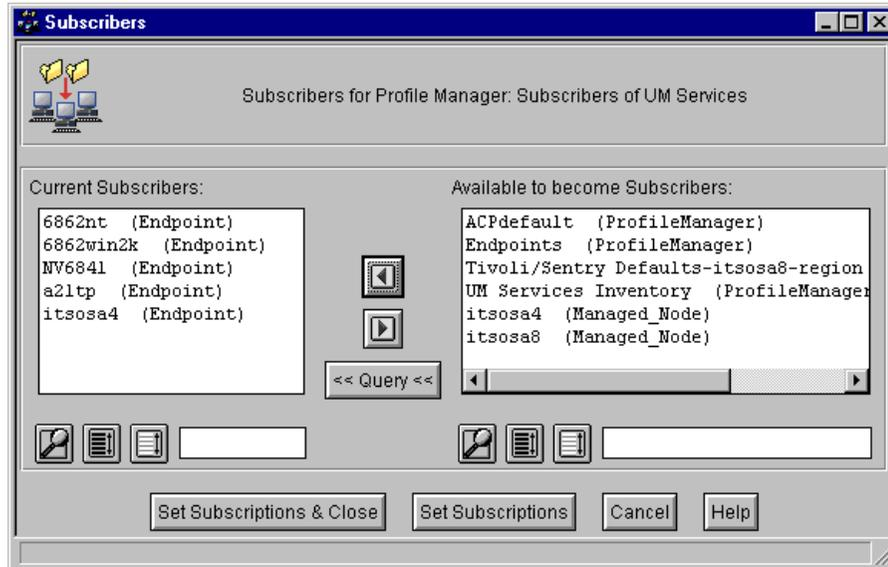

Figure 114. Adding endpoints to subscribers of UM Services
5. In the Available to become Subscribers list box on the right, select the appropriate endpoints and click . In our case we have chosen the endpoints: 6862nt, 6862win2k, NV6841, a21tp and itsosa4 as shown in Figure 114: